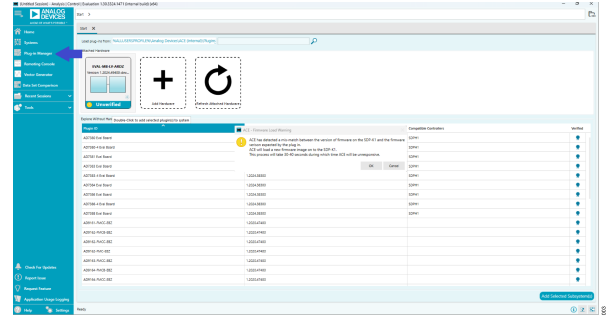

Figure 3. Opening Plug-in Manager
2. Open ACE, go to **Plug-in Manager**. A dialogue box occasionally pops up asking to reprogram the SDP-K1 with a standard firmware, always select **No** or **Cancel**. See Figure 3.